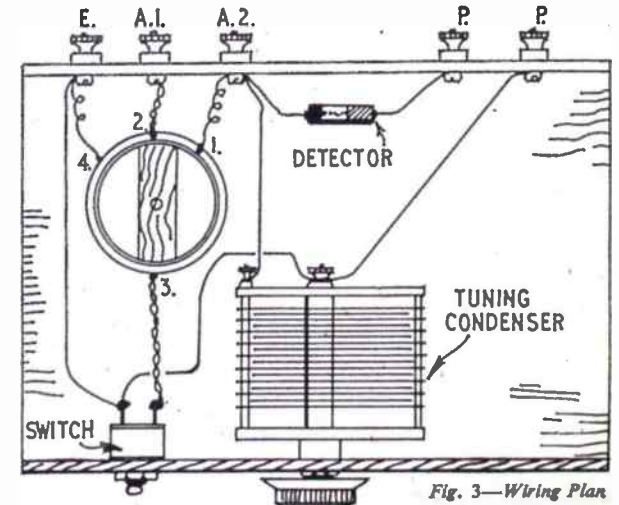

Fig. 3—Wiring Plan
The coil is mounted by cutting a strip of wood upon which it can be pushed, and screwing this to the receiver baseboard, as in Fig. 3. The finished coil
Some of the 28 SWG wire will be satisfactory for connections in the set, all of which will be seen in Fig. 3. Insulation must be scraped from the ends of the connections, and a tight clean joint obtained. Leads from the coil are numbered to agree with Fig. 2.
Some tuning condensers will be different from that shown, and may have tags or terminals situated in different places. However, one will go to fixed plates, and this tag or terminal is wired to A2 in Fig. 3. Similarly, the moving plates terminal, tag or contact strip (or frame, with a metal-framed condenser) is connected to the terminal marked (P).